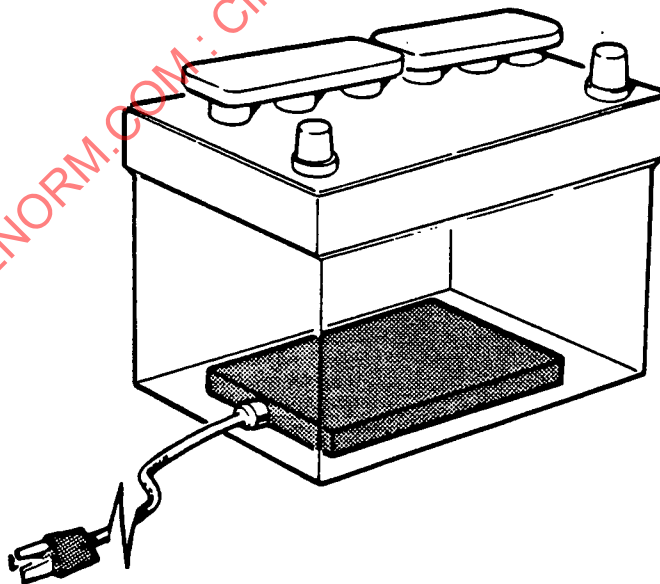

FIGURE 6
7.1.1 Plate Type: This unit (Figure 6) employs a metal sheathed tubular element of "U" shape sandwiched between heavy gage sheet metal plates and equipped with an integral control thermostat. This unit is mounted directly under the battery. The unit is available in 200 W-115 V or 230 V size 6 x 9 x 5/8 in (15.2 x 22.8 x 1.6 cm).